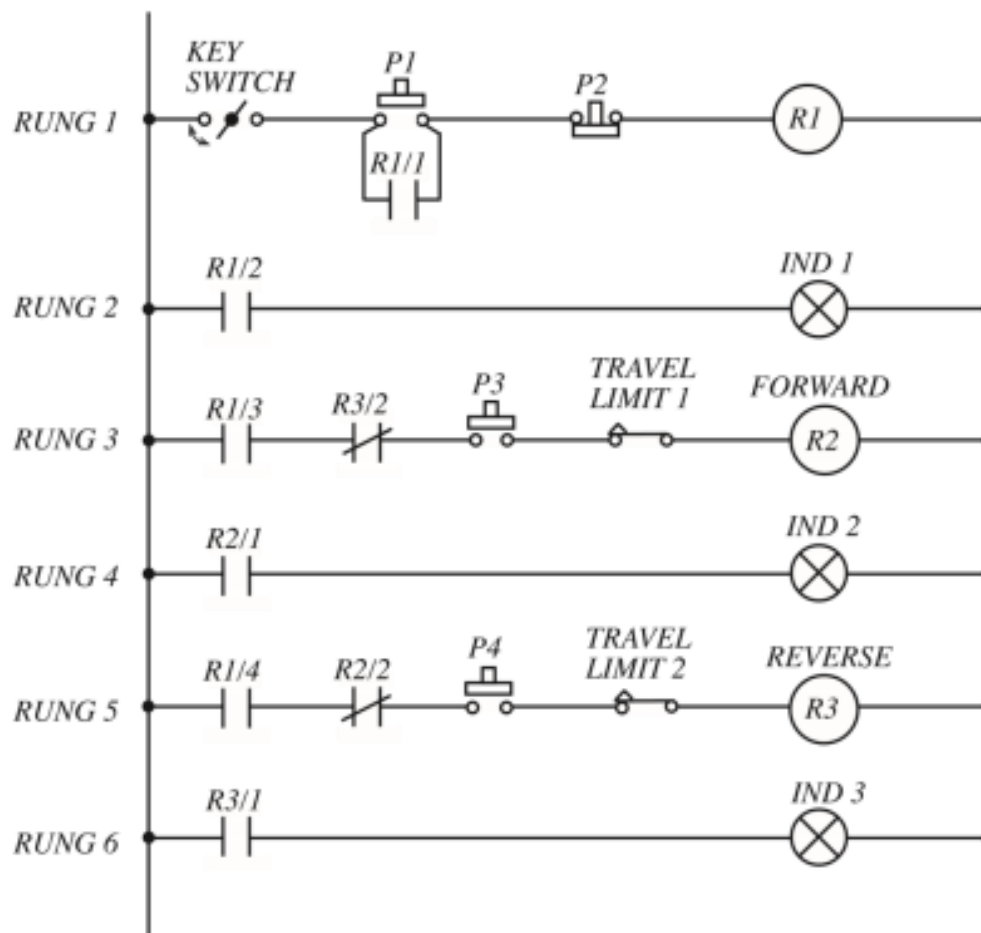

FIG. 2
2. The diagram of FIGURE 2 is an extract from an industrial control panel wiring diagram.